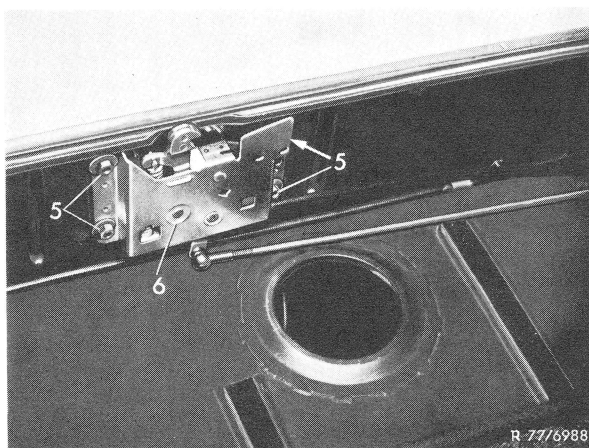

Figure 2
- 6 Remove screws (5) and lock (6) (Fig. 2).
- 7 Remove fastening screws (7) on guide bearing (8) and remove guide bearing from top well.